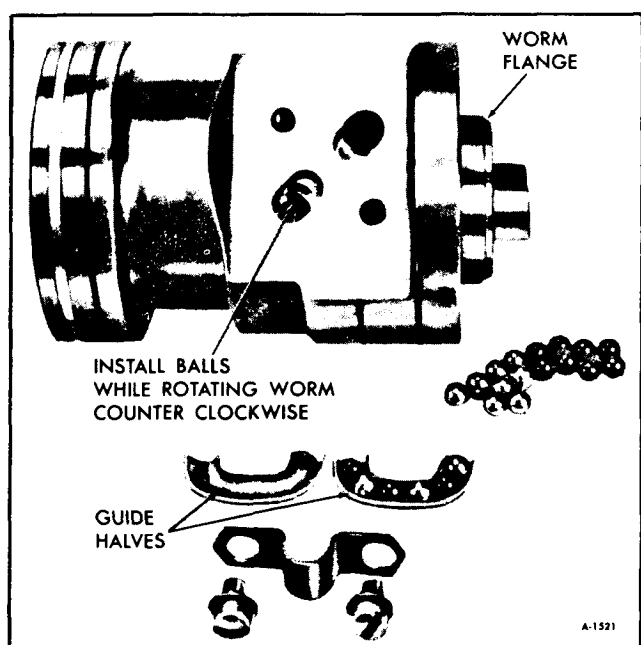

Figure 39—Installing Balls in Rack-Piston
3. Turn the worm until the worm groove is aligned with the lower ball return guide hole (figure 39).